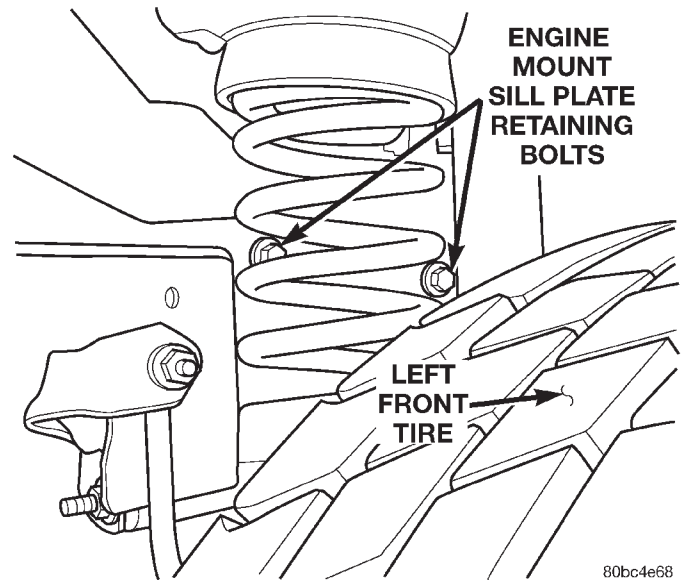

Fig. 25 Engine Mount Sill Plate Bolts - Left Wheel Well
- (14) Install the engine mount sill plate retaining bolts in the left wheel well (Fig. 25). Torque the bolts to 61 N·m (45 ft. lbs.).